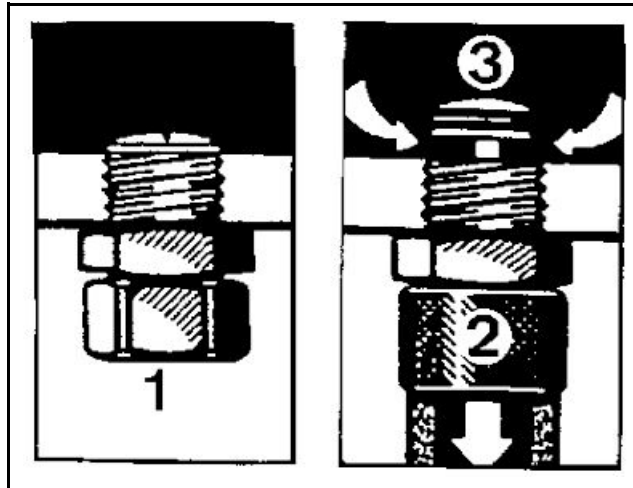

Abb. 298
After an extended period of downtime, drain any water from the hydraulic oil box. To do this, use the drain valve (1) (**Abb. 298**) on the bottom of the box.
- Remove the lock nut from the drain valve (1) (**Abb. 298**).
- Screw the drain hose (2) onto the drain valve.